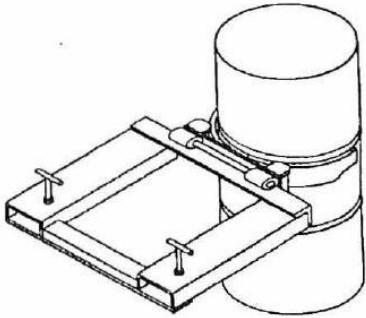

Figure 3.
7. When the jaws surround the drum, raise the forks until jaws rest under the upper rolling rib. Drum can now be raised and moved where desired (Figure 3.).